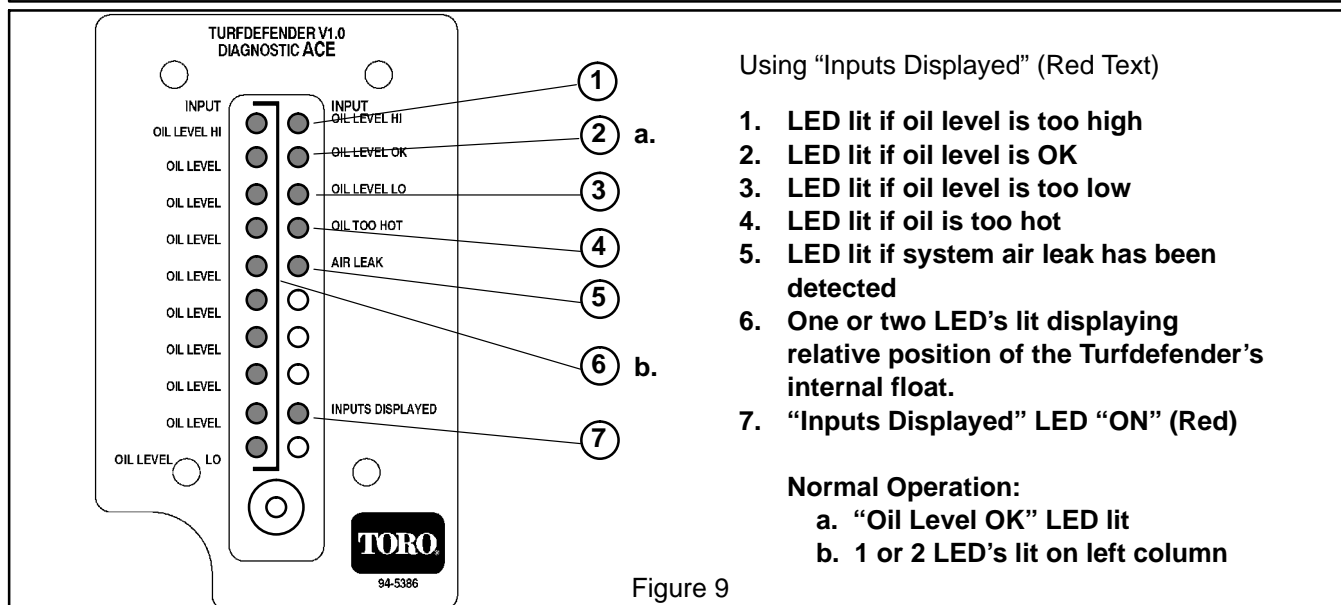

Figure 9
1. When the "Inputs displayed" LED is lit (Fig. 9),
1. When toggling “input”, a LED should display (Fig. 9) any of the following problems diagnosed by the TurfDefender: